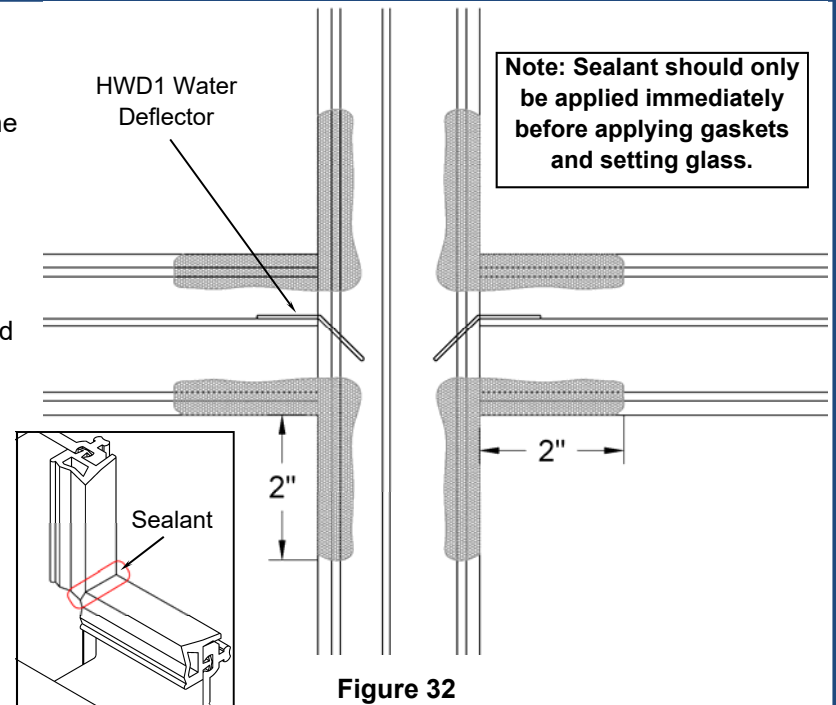

Figure 32
- Apply silicone type sealant into the raceways a minimum of 2" in each direction from the corners of the D.L.O.. See Figure 32.